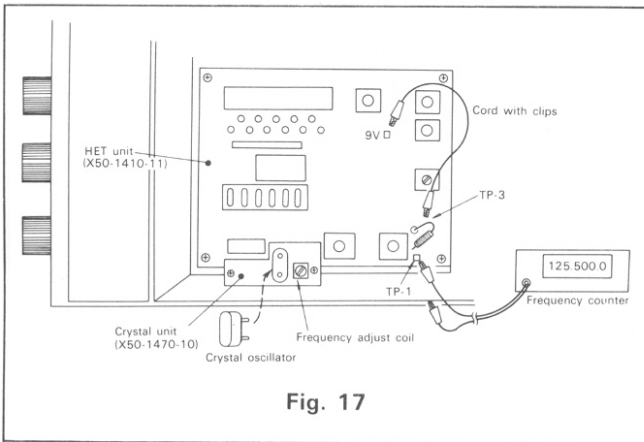

Fig. 17
3. Connect a shorting cord (with clips) between the 9V terminal of the HET unit (X50-1410-11) and TP-3 (choke coil lead). Then connect a frequency counter between TP-1 and ground, as shown in Fig. 17.